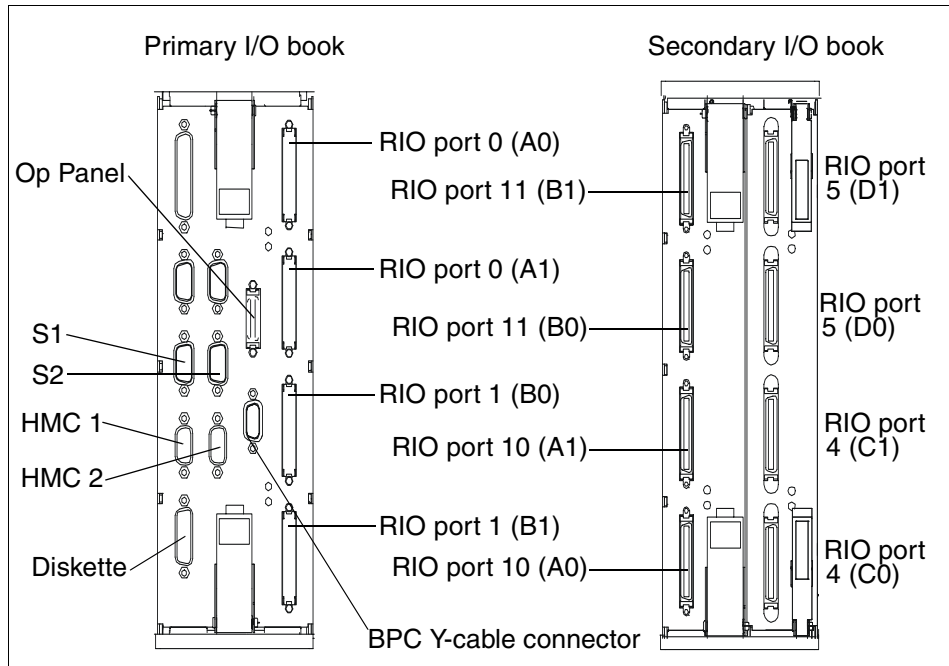

Figure 6-10 Primary and secondary I/O books
There are two types of I/O books available, called primary I/O book and secondary I/O book, as shown in Figure 6-10 on page 231. The primary I/O book is mandatory in all pSeries 670 and pSeries 690 and there must be exactly one per system. The secondary I/O books are optional. Their number depends on the requirements for external I/O drawer attachments. A pSeries 670 can contain at most one secondary I/O book, while a pSeries 690 can contain up to three secondary I/O books.
- Plugs into the GX slots of the CEC backplane in this order: GX slot 2, GX slot 3 and GX slot 1. In Figure 6-10, the RIO Port numbers correspond to the first secondary I/O book. For the second and third secondary books, the port number would be, respectively, 6, 7, 12, and 13, and 2, 3, 8, and 9.